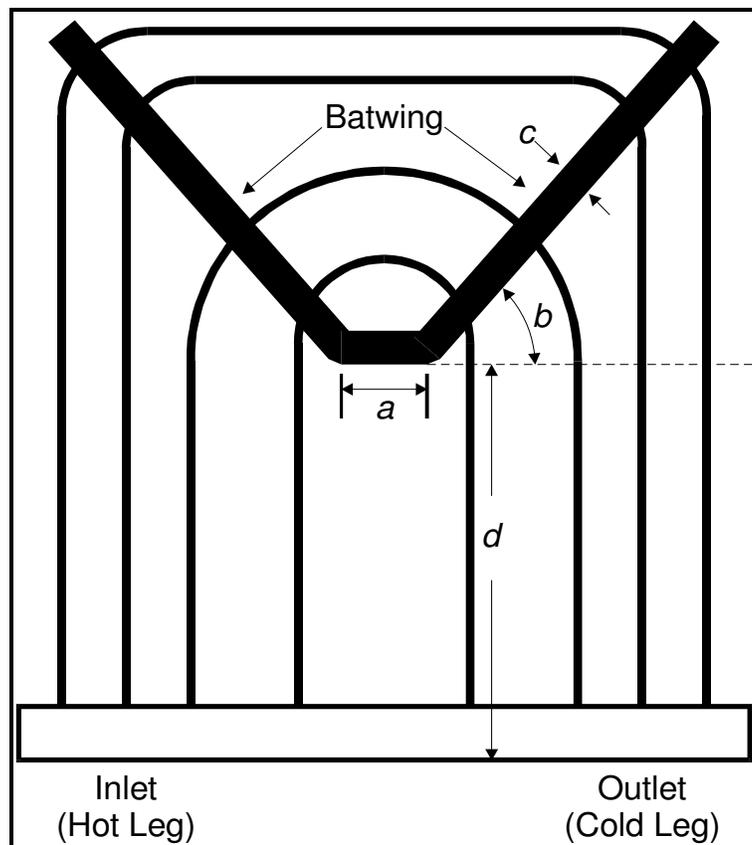

Figure 33. Determining Batwing Values on the Attributes Dialog
- ❑ **Batwing Thickness:** The batwing is unique to CE Model 80 steam generators. Enter the thickness of the batwing. In Figure 33, the **Batwing Thickness** is shown as dimension 'c'. If the batwing is not present, leave this field set to 0 (zero).
- ❑ **Batwing Angle:** Enter the angle of the batwing. In Figure 33, the **Batwing Angle** is shown as angle 'b'. If the batwing is not present, leave this field set to 0 (zero).
- ❑ **Batwing Base:** Enter the length of the base of the batwing. In Figure 33, the **Batwing Base** is shown as dimension 'a'. If the batwing is not present, leave this field set to 0 (zero).
- ❑ **Batwing Pos:** Enter the distance in linear units from the base of the batwing to the tube end at the inlet-outlet tubesheet. In Figure 33, the **Batwing Pos** is shown as dimension 'd'. If the batwing is not present, leave this field set to 0 (zero).